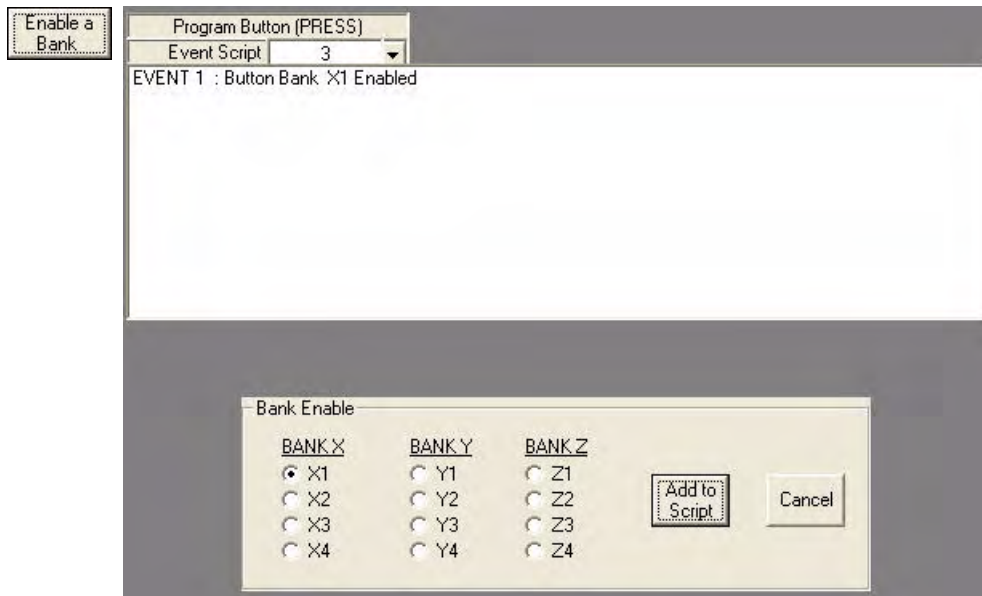

FIG. 78 Button 3 - Button Bank X1 Enabled
14. Click **Enable a Bank** in the Command Bar; select **X1** and **Add to Script** (FIG. 78).